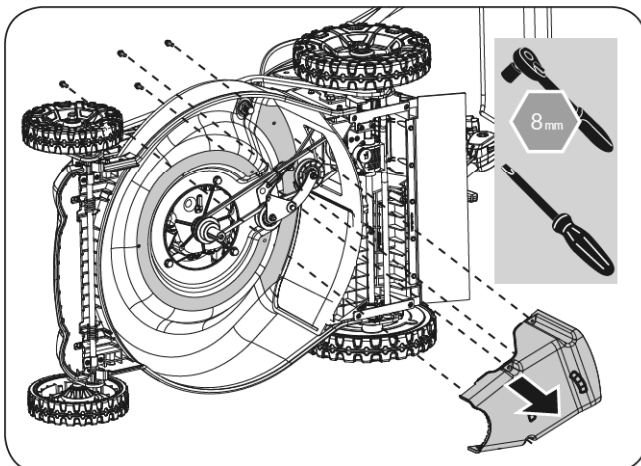

Figure 34
3. Remove the belt cover. (See **Figure 34**)